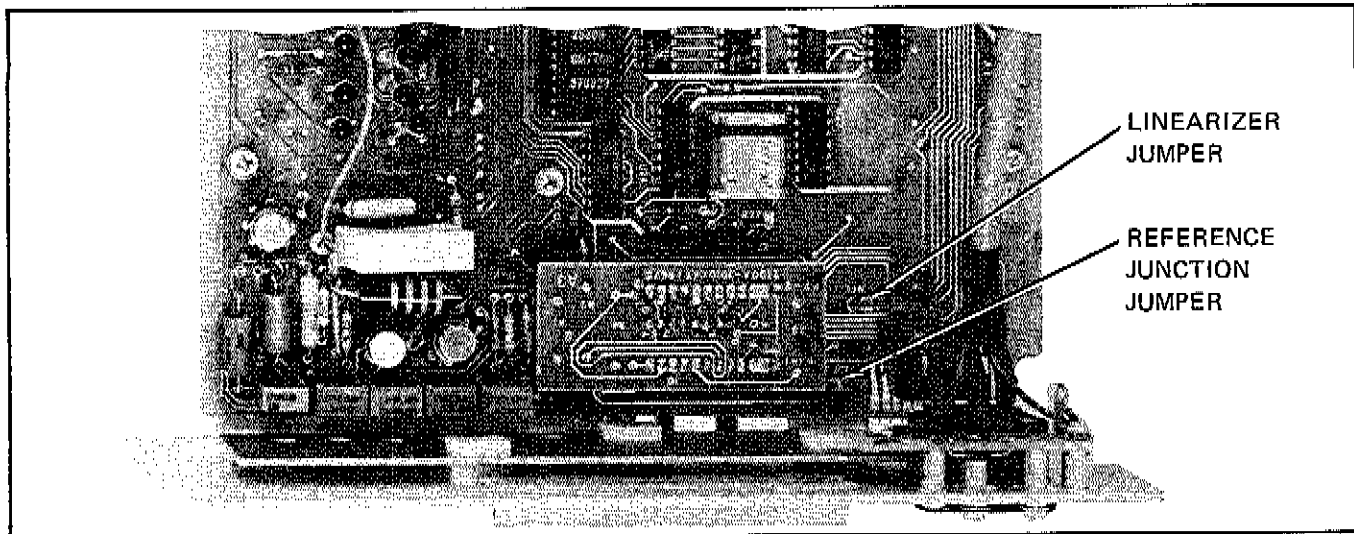

Figure 4-2. LINEARIZER AND REFERENCE JUNCTION JUMPER LOCATIONS.
- Remove the LIN and REF JCT jumpers. They are located near the left rear corner of the Basic PCB, (see Figure 4-2).
- Plug the linearizer jumper into the Main PCB (See Figure 4-2).